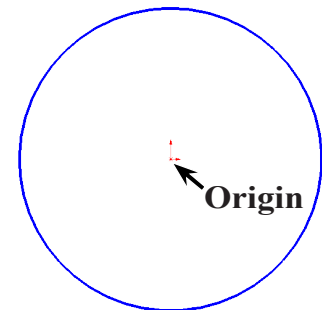

Fig. 2
Step 4. Sketch a circle starting at the Origin , **Fig. 2**.